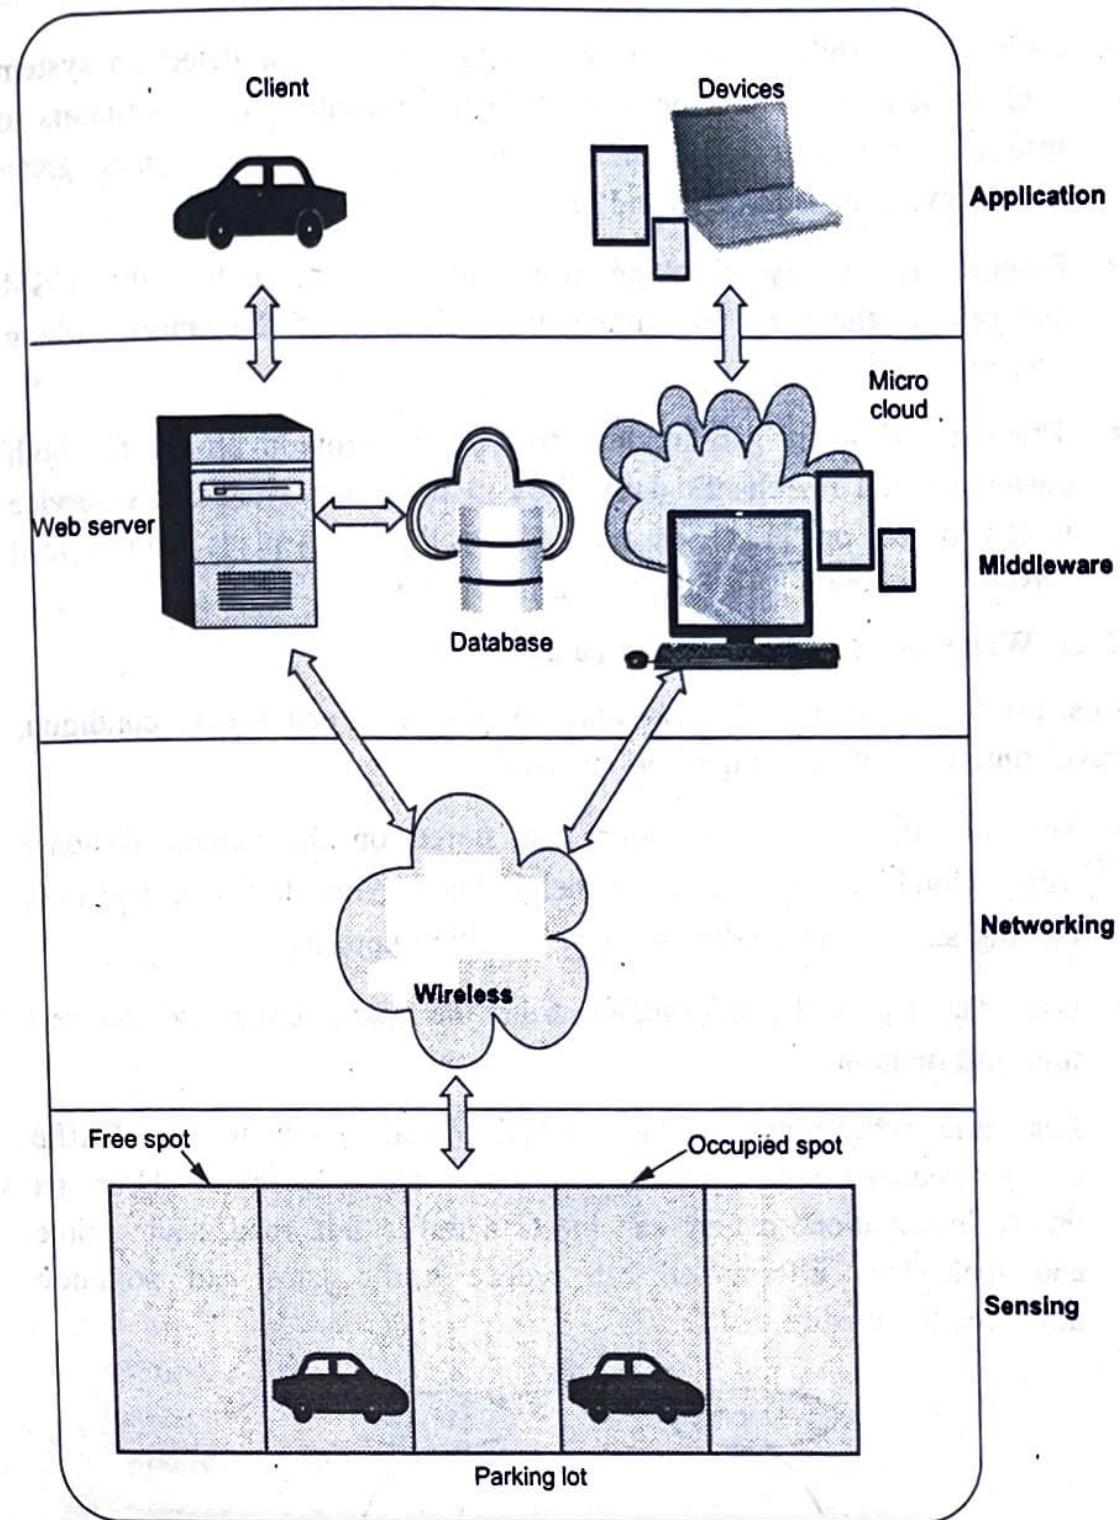

Fig. Q.21.2
- Fig. Q.21.2 includes four layers : A sensing, networking, middleware and application layer.